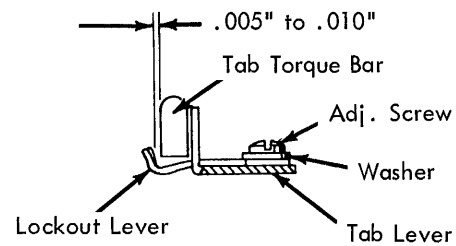

FIGURE 242.4. Lockout Lever
8. Lockout Lever (Fig. 242.4) - Position to clear the torque bar by .005" to .010" with the torque bar at rest.